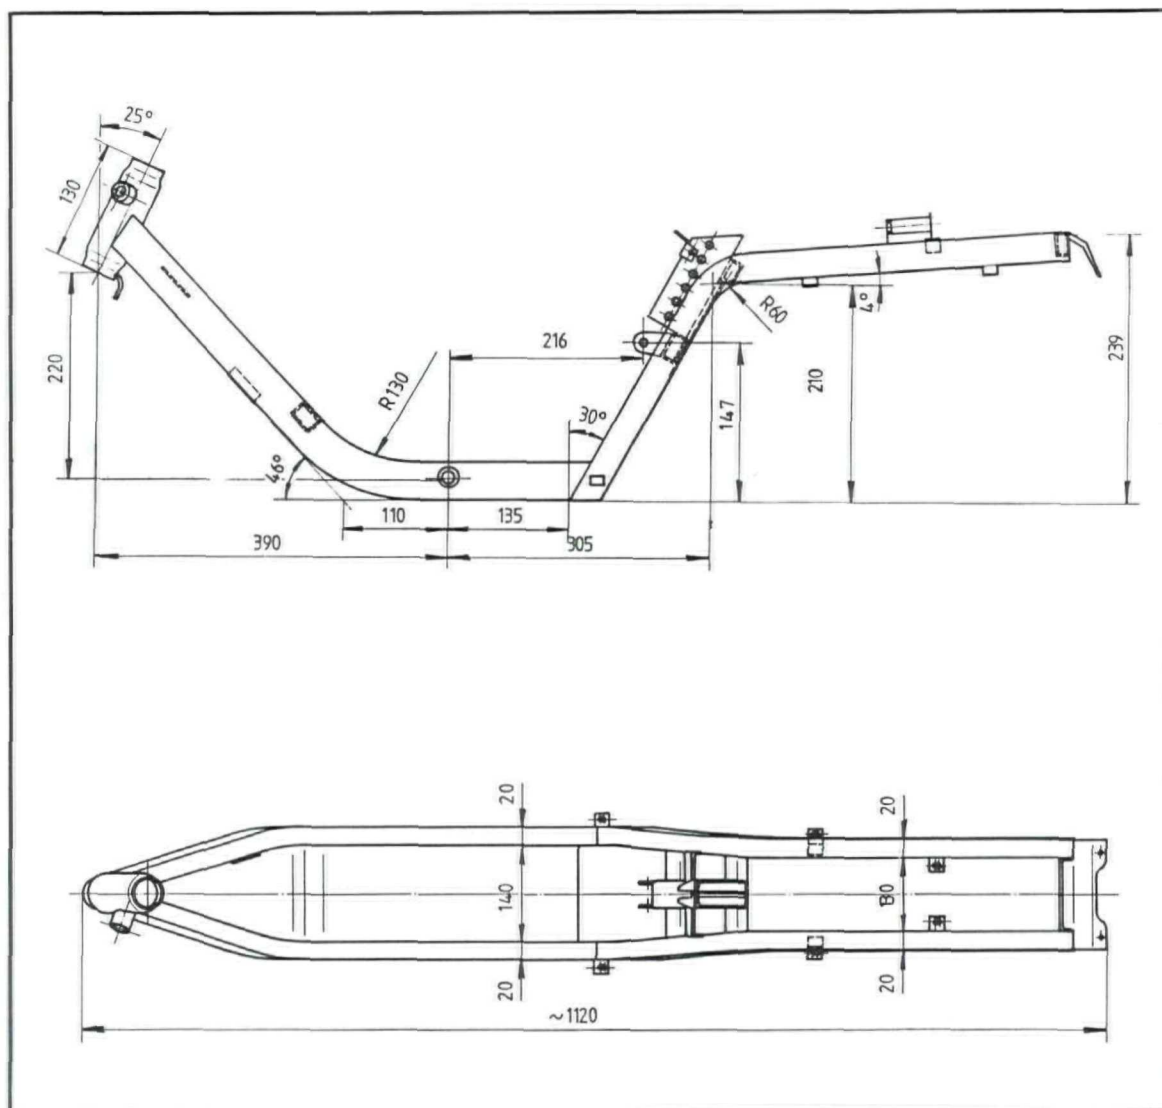
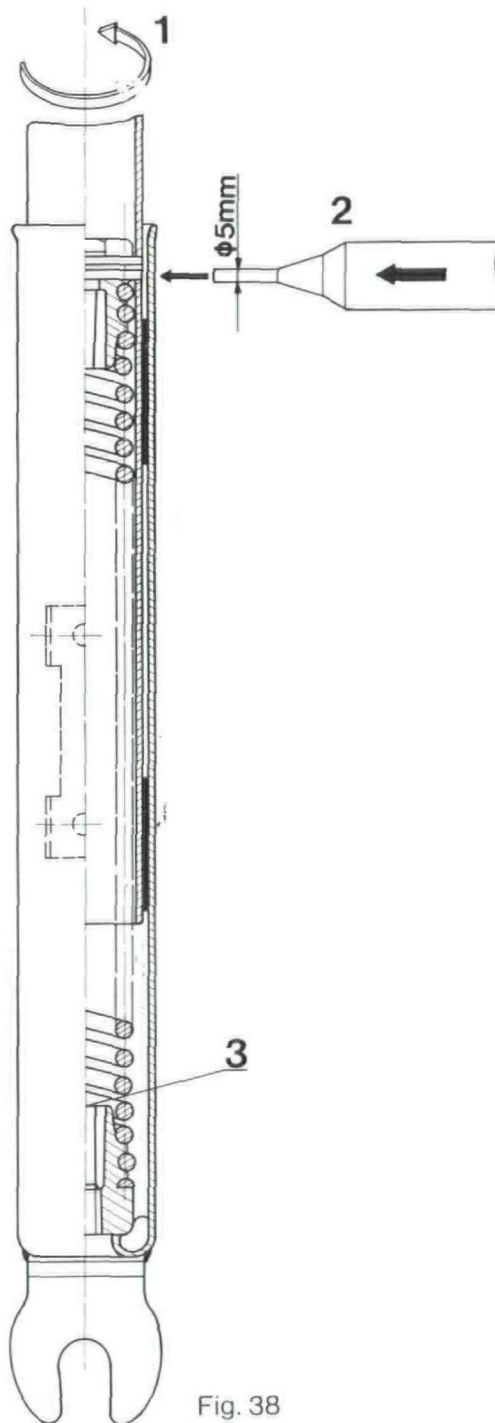

Fig. 36
Fig. 38
The frame is rectangular steel tube construction type (fig. 36). Engine is peculiarly incorporated with supports in rear swinging arm with hydraulic monoshock absorber (fig. 37 and 25). Front forks are common telescopic-spring type (fig. 38).
The front fork lower leg can be removed as it is shown in fig. 38.
- by unscrewing remove lower leg from the front fork (fig. 38/1)
- the upper plug should be removed after taping out the elastic pin (fig. 38/2)
- the lower plug can be removed with longer allen key (9 mm), (fig. 38/3)